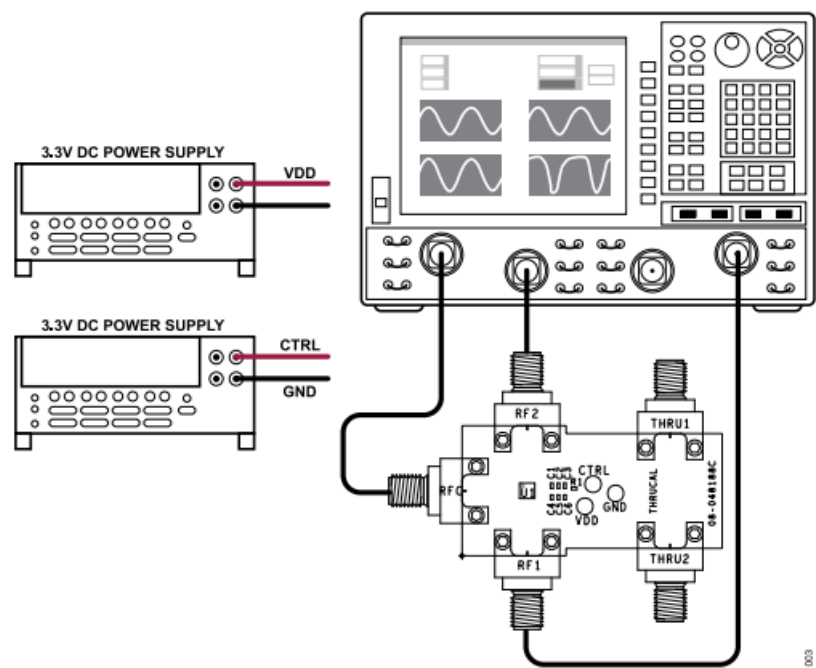

Figure 4. Scattering Parameter Test Setup Diagram for the ADRF5301-EVALZ
- The ADRF5301-EVALZ is shipped assembled and tested. Figure 4 shows a basic setup diagram to measure the scattering parameters response of the ADRF5301.